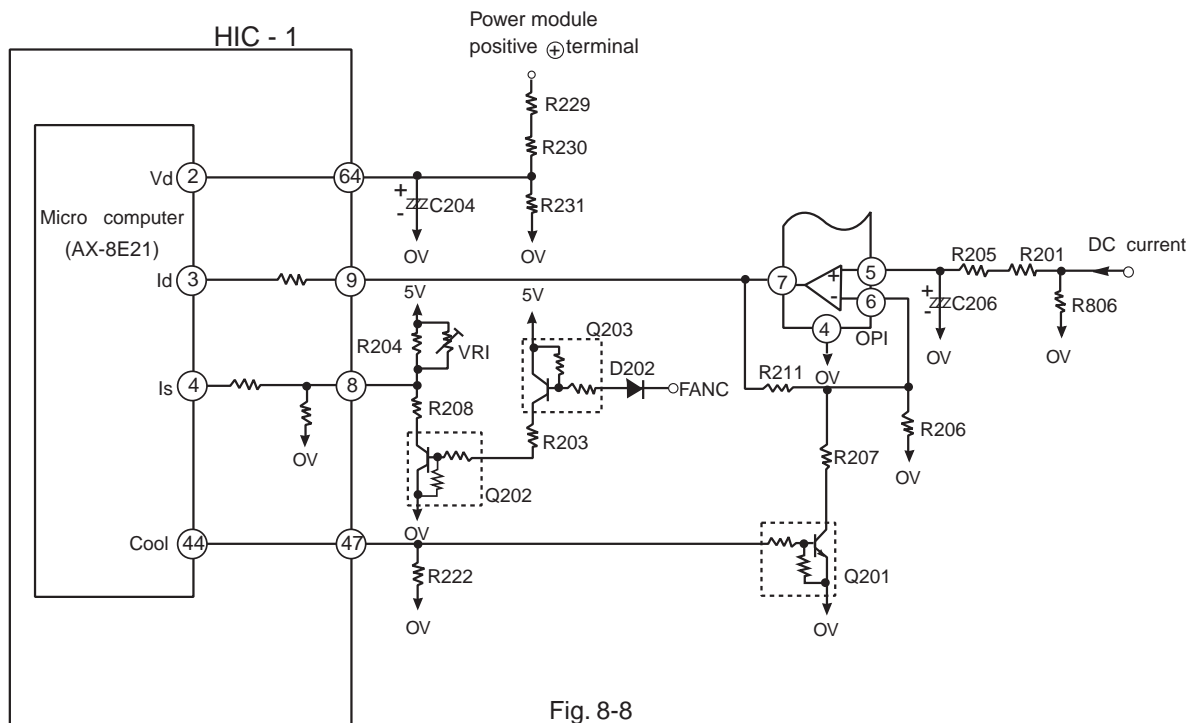

Fig. 8-8
- The filter consisting of R201 and C202 removes high harmonic components from the voltage generated from the DC current flowing to the detection resistor, and R205 and C206 average the voltage and supplies it to OP1 pin ⑤. OP1 forms a non-inverting voltage amp. circuit together with the peripheral elements.
- The micro computer stores the set values which vary according to the rotation speed as shown in Fig. 8-8. When the DC current level exceeds the set value, the micro computer enters the overload control state. The compressor motor is controlled in the same way as in external judgement described previously.